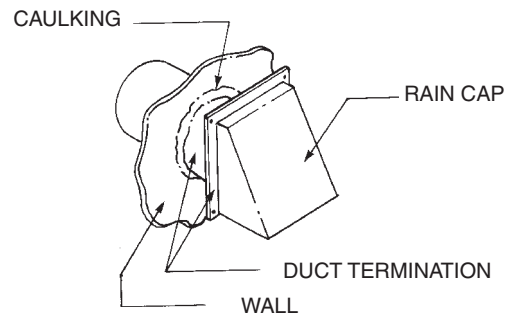

Figure 11
11. Refer to Figure 11 for options available for installation of 6" diameter duct. The duct run can be a maximum length of 40 feet. Insulated duct is recommended when ducting through a heated space. Note: 6" C vent or 6" flex vent can be used.
13. Caulk exterior of structure that will be contacted by outside air tube (See Figure 11).
14. Insert outside air tube into 6-1/8" diameter hole in structure. Align clearance holes on rain cap with clearance holes on outside air termination plate. Attach rain cap and outside air termination plate to structure with (6) 1-1/2" provided screws.